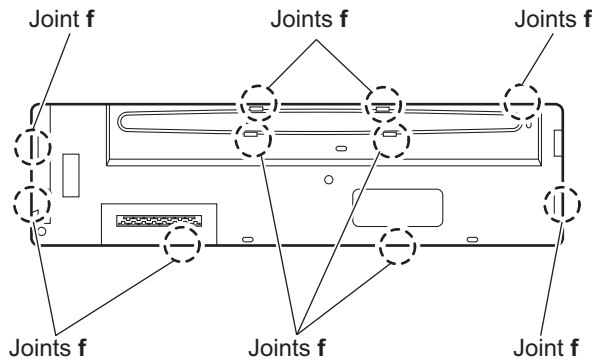

Fig.9
- (2) Release the ten joints **f**. (See Fig.9.)